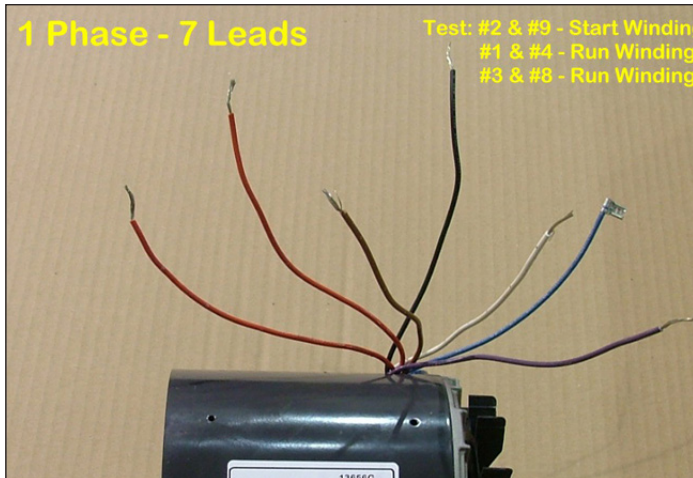

Figure 33. Testing 1 Phase Stator
3. Using an ohmmeter, check continuity across leads (Figure 33):